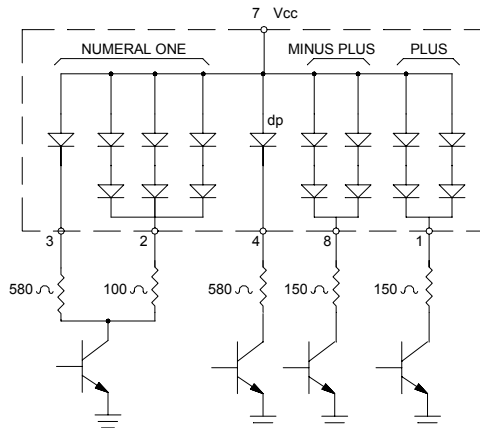

FIGURE 3
- L: Line switching transistor in figure 3 cutoff.
- H: Line transistor in figure 3 saturated